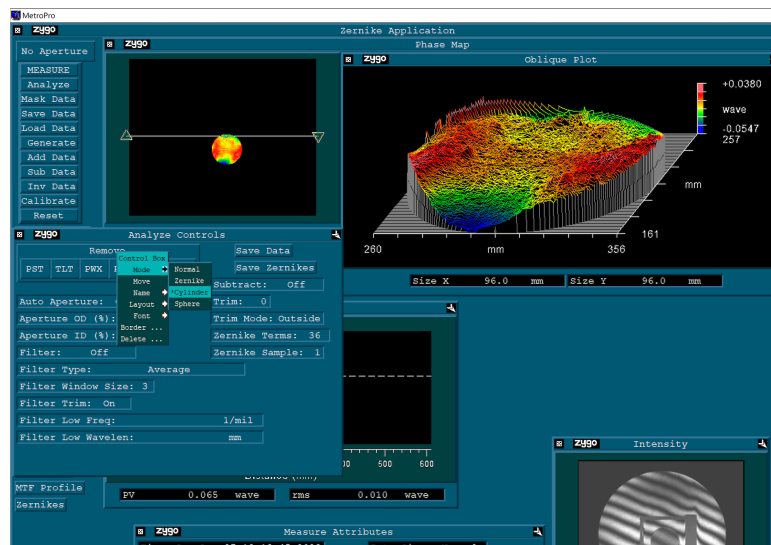

Figure10: Analyze mode for cylinder in Metropro
11. Adjust the clock degree to compensate the astigmatism. Test the cylinder lens with in cartesian coordinate. If your analyzing software is Metropro, click the “Load data” button and Right click on the mouse to get the mode-cylinder interface as shown in Figure 10.